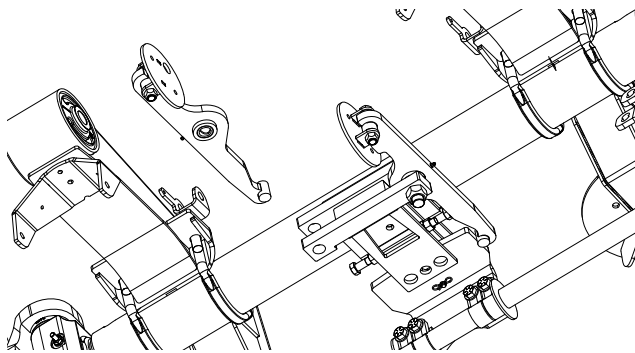

Figure 8: Lock-straight arm assembly removal
6. Remove both lock-straight arm assemblies (Figure 8).